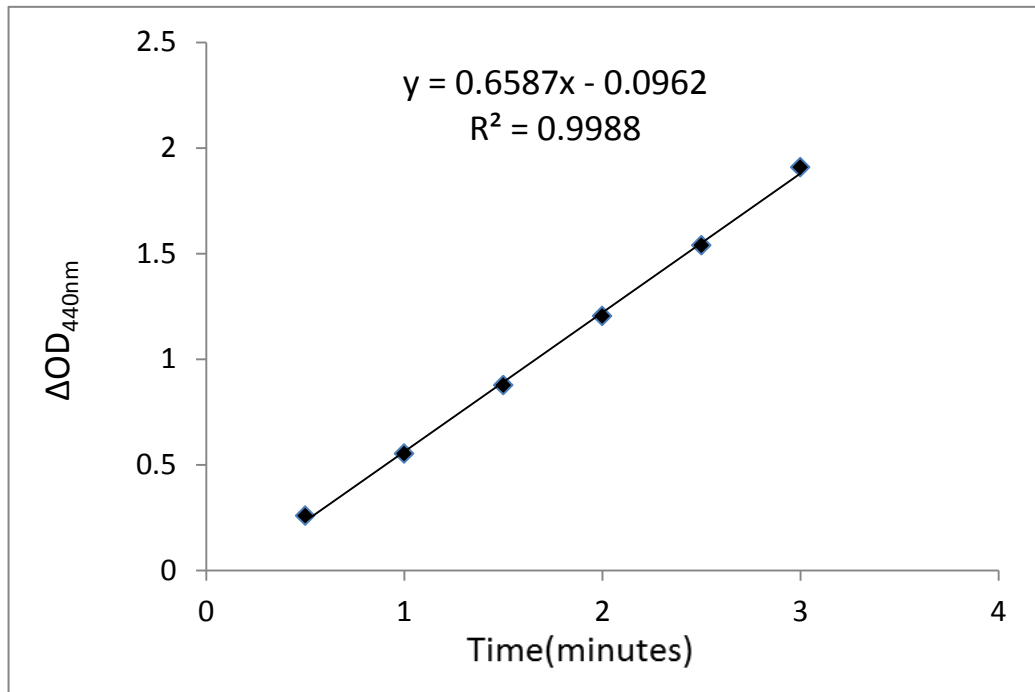

Figure.2 The change in absorbance ΔOD_{440nm} of diluted ADH positive control during the time at 440nm.
1. Determine the change in absorbance $\Delta OD_{440nm}/min$ by plotting the absorbance value at ΔOD_{440nm} as a function of reaction time to obtain the slope of the linear portion of the curve. As shown in Figure.2.